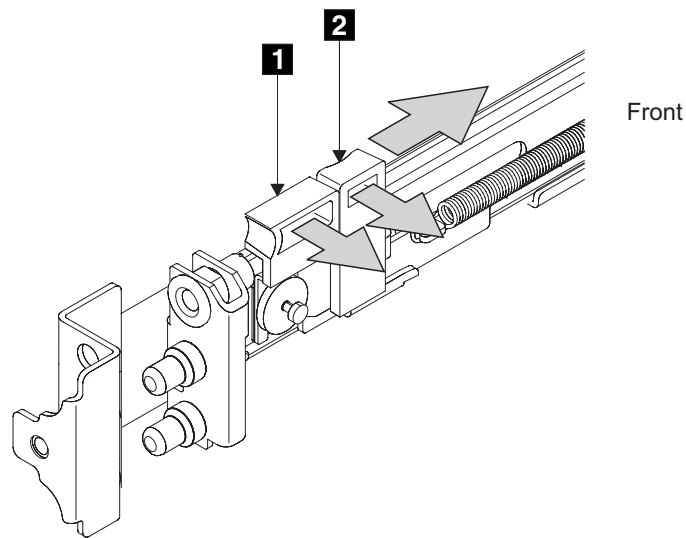

Figure 28. Opening the front latch-lock carrier assembly
5. Gently push the latch lock **2** (Figure 28 ) away from the rail as you move the latch lever **1** towards the far end of the rail. The latch-lock carrier assembly slides against the spring tension.